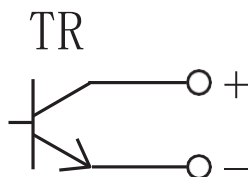

Figure 1
*1 Equivalent circuit is as the figure shown below. Maximum capacity of TR is 80V, 100mA. When connecting such as relay to two terminals, do not exceed 80% of the maximum capacity of TR.(Figure 1)